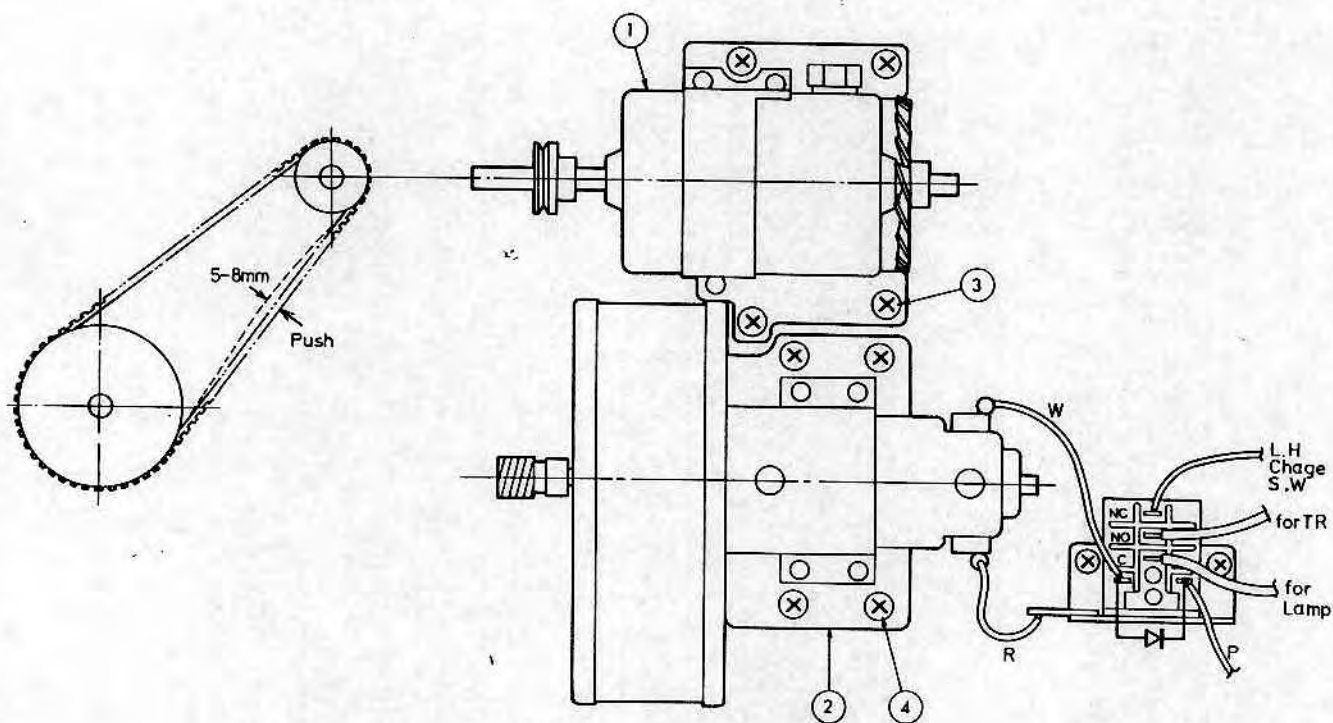

FIG. 36
TROUBLESHOOTING: (Refer to Fig. 36)
Refer to Fig. 36.
1. Attach the (1) in place where the tension of V belt becomes as shown in Fig. 36-A.
2. When attaching the (2), refer to the reassembly notes No. 2 on Page 16.